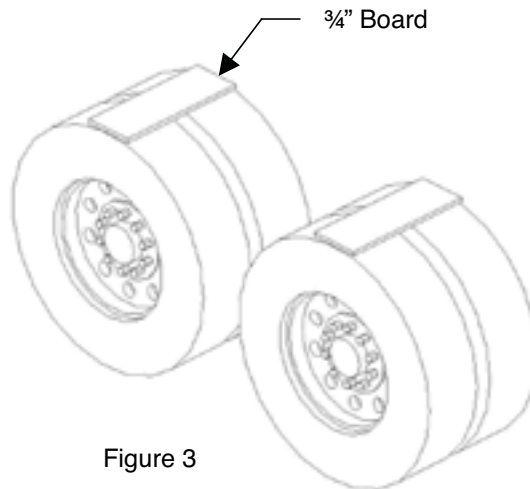

Figure 3
**TIP:** To establish the  $\frac{3}{4}$ " minimum gap needed in Step 2B for an air suspension system, place a  $\frac{3}{4}$ " board on top of tires after you have let out the air from your airbags, then place the fender on top of the board (see Figure 3). For a spring suspension system add  $\frac{3}{4}$ " to the measurement from step 3A.